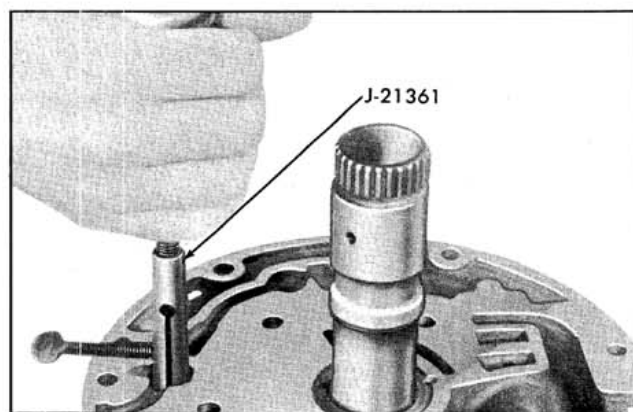

Fig. 6-108 Removing Valve Spring and Seat
12. If necessary, remove the check valve using Tool J-21361 attached to Slide Hammer J-6125, then remove seat. (Fig. 6-108)